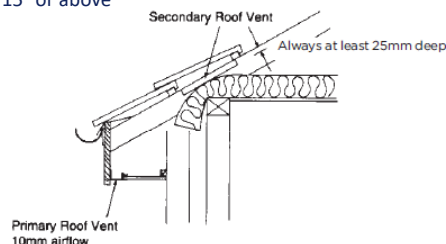

Fig. 2
- With a pitched roof where the pitch of the roof is less than 15 degrees and the roof space is an attic or loft a free airflow is required which is equivalent to a continuous 25mm opening (25,000 mm² per metre run). See Fig. 2
- With a pitched roof where the pitch of the roof is less than 15 degrees and the roof space is an attic or loft a ventilation channel at least 25mm deep must be maintained between the roof insulation and the underside of the roof covering. See Fig. 2